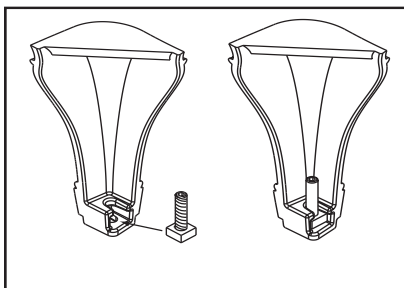
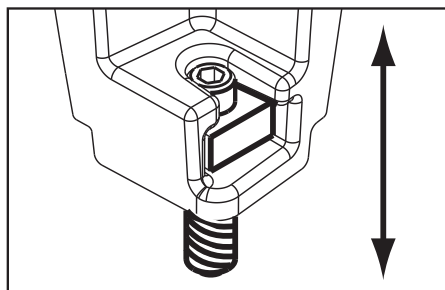

Figure 17.2
Figure 17.3 - Bolt fully extended
2. Slide assembled nuts and bolts into slots on legs with the nuts on the bottom. **Figure 17.2.** Use a 5/32 in. (3.96mm) Allen wrench to adjust legs up and down to desired level. **Figure 17.3**